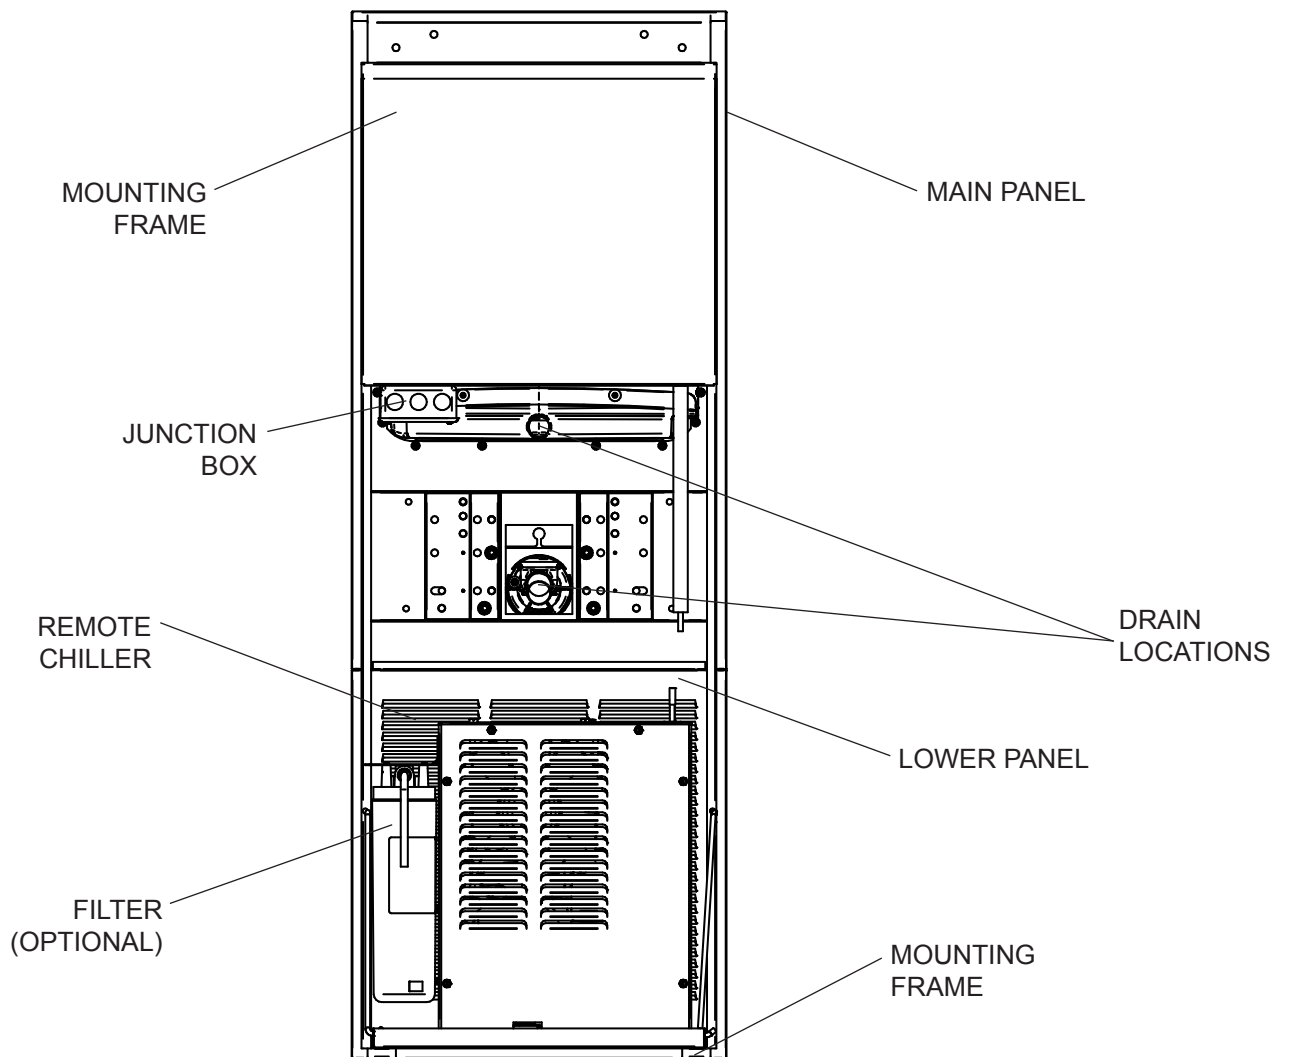

Figure 7
3. (For LZWS-LRPBM8K) Install the filter head to the bracket then install bracket to side of chiller (Fig. 7). Next install filter to filter head and plumb from filter outlet to the chiller inlet with 1/4" poly tubing and 1/4" x 1/4" union per (Fig. 2).
2. Securely mount the filter head in the desired remote location on the chiller (Fig.7),